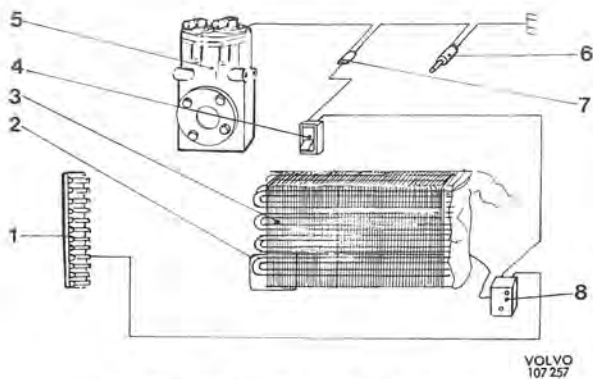

Fig. 8-41. Wiring diagram for air condition
refrigerant between the various components. They are provided with tapered pipes and unions at the ends. The unit is started by means of the switch (4, Fig. 8-41) on the instrument panel inside the vehicle. When the current is switched on, the electromagnetic clutch and the compressor (5) start operating. A cut-out thermostat (8) is fitted at the evaporator in order to prevent it from being iced.
Belonging to the unit control system is the cut-out thermostat, the function of which is to prevent icing in the evaporator. The thermostat is placed at the evaporator and is provided with a capillary tube (2, Fig. 8-41) which is inserted in between the evaporator fins (3). When the vapour temperature has dropped to $+3^{\circ}\text{C}$ (37°F), the capillary tube actuates the thermostat (8) so that current to the compressor clutch is broken off and the compressor stops. When the temperature of the evaporator again rises, this cuts in the current and the compressor starts working again.